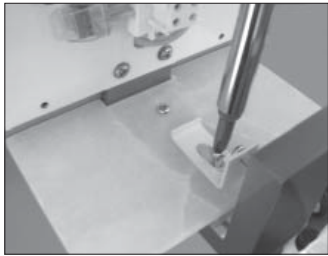

Figure 5
Step 6 Attach shade clip to alabaster diffuser, using provided screw - do not tighten at this time. (Figure 5)